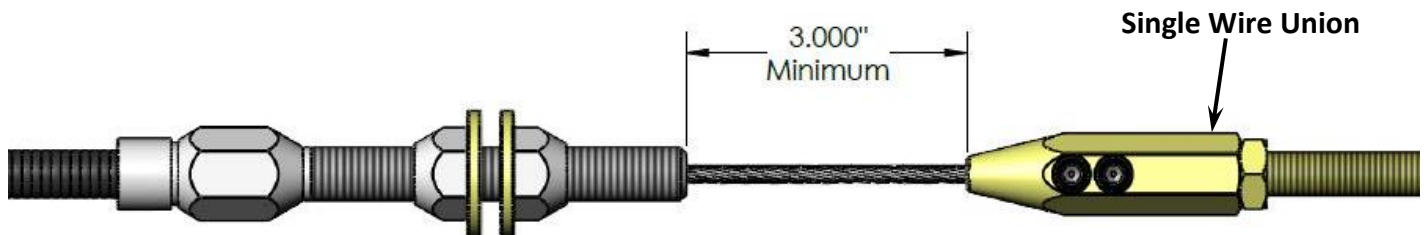

Figure 4 - Inner Wire Minimum Clearance Length
7. With the inner wire extending past the cable adjuster, mark the wire to be cut. The wire will need at least 3.000" of total wire travel to allow for adequate movement of the park brake lever at the caliper. Refer to Figure 4 below for reference. **REMEMBER: Allow an additional 1.375" of wire length for insertion into the single wire union.**